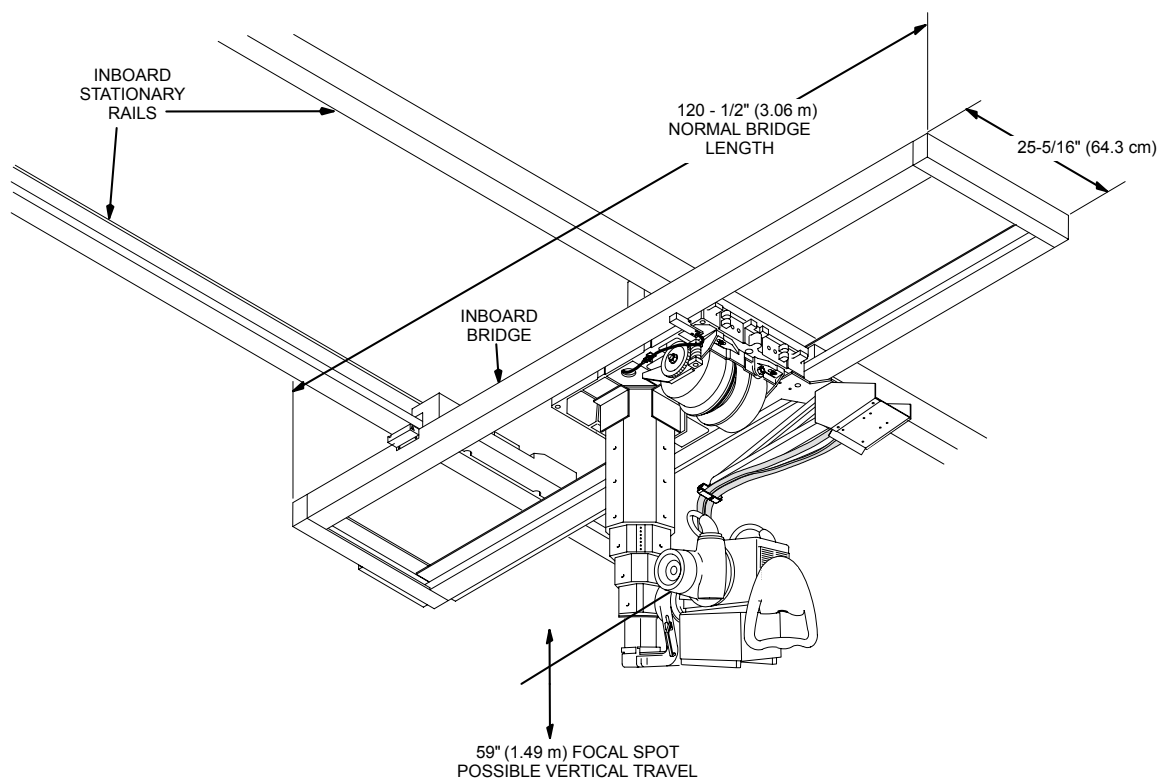
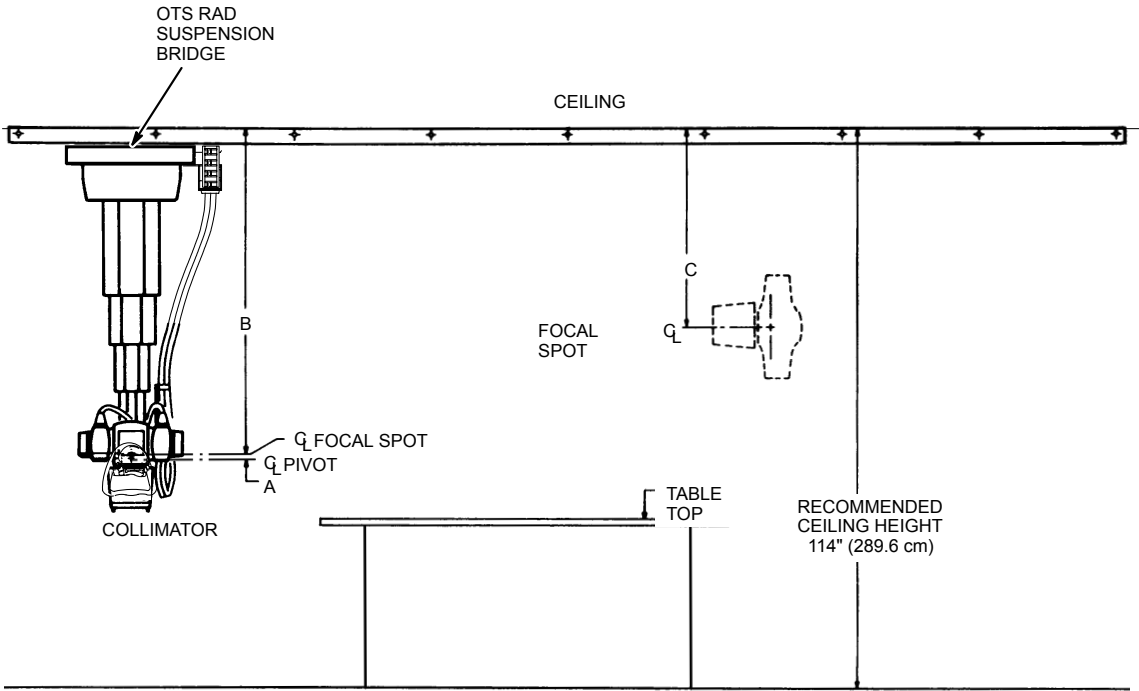

Figure 5-11 OTS Suspension
Figure 5-17 OTS Suspension Side View
- Overhead Tube Suspension (OTS) - Figure 5-11 through Figure 5-18.
Figure 5-11 shows basic overall dimensions for an OTS Suspension. Figure 5-12 through Figure 5-17 give layout dimensions for a typical OTS Suspension System. The equipment arrangements shown are generally preferred since they result in good utilization of equipment for the most commonly used procedures.
Table 5-3 OTS Suspension Vertical Travel Limits (See Figure 5-17)